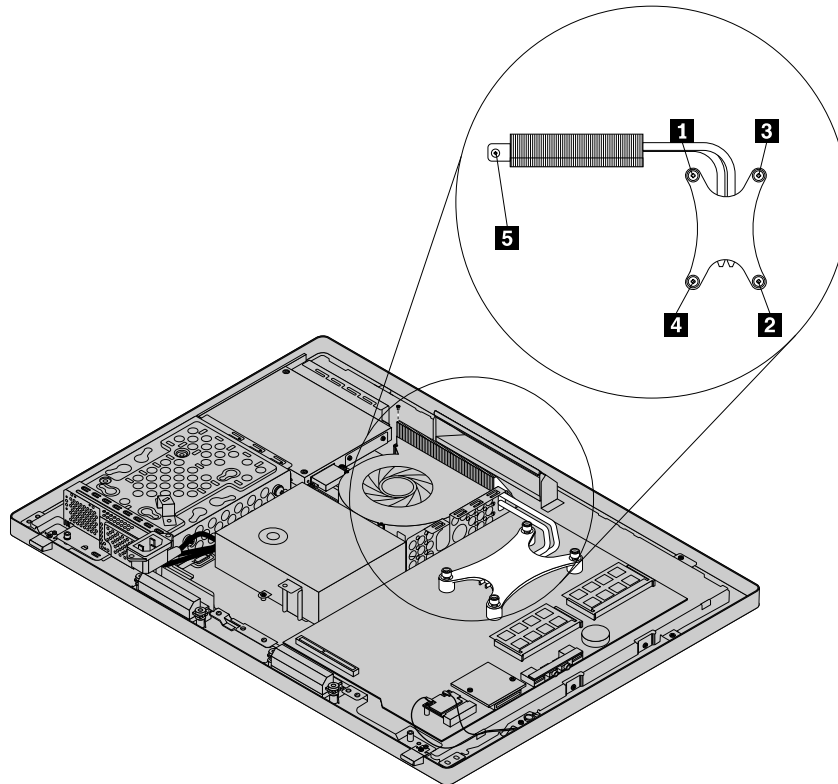

Figure 27. Loosing the four screws that secure the heat sink assembly to the system board
9. Follow the sequence **1**, **2**, **3**, **4** on the heat sink assembly to tighten the four screws to secure the heat sink assembly to the system board, as shown in Figure 27 “Loosing the four screws that secure the heat sink assembly to the system board” on page 91. Install the screw **5** to secure the heat sink assembly to the computer.